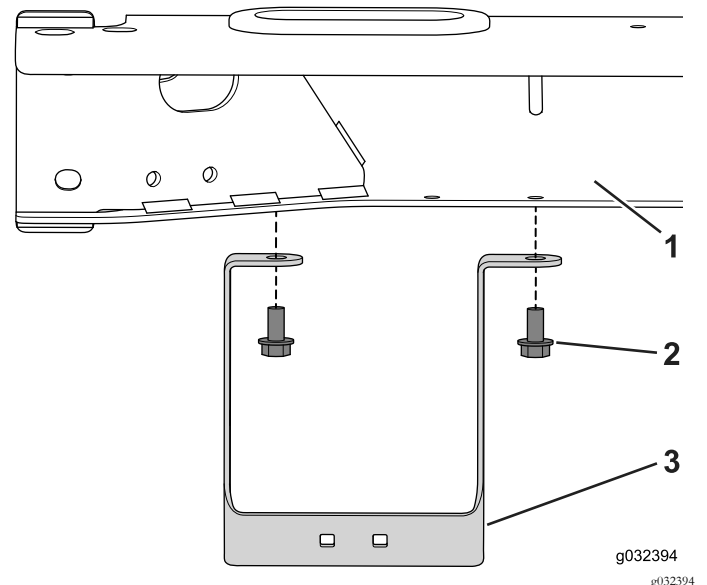

Figure 27
1. Use the 2 bolts (5/16 x 5/8 inch) to install the hose bracket to the frame (Figure 27).